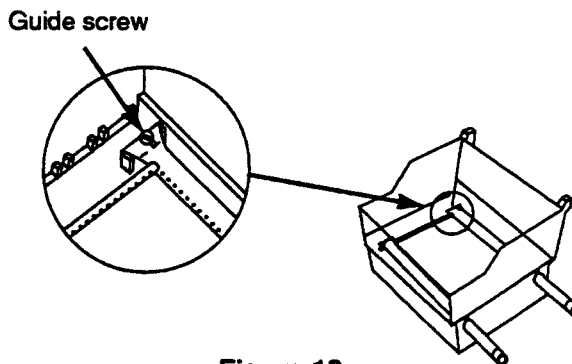

Figure 12
- Slide the burner assembly out from under the guide screw in the corners of the cooking box. Figure 12.